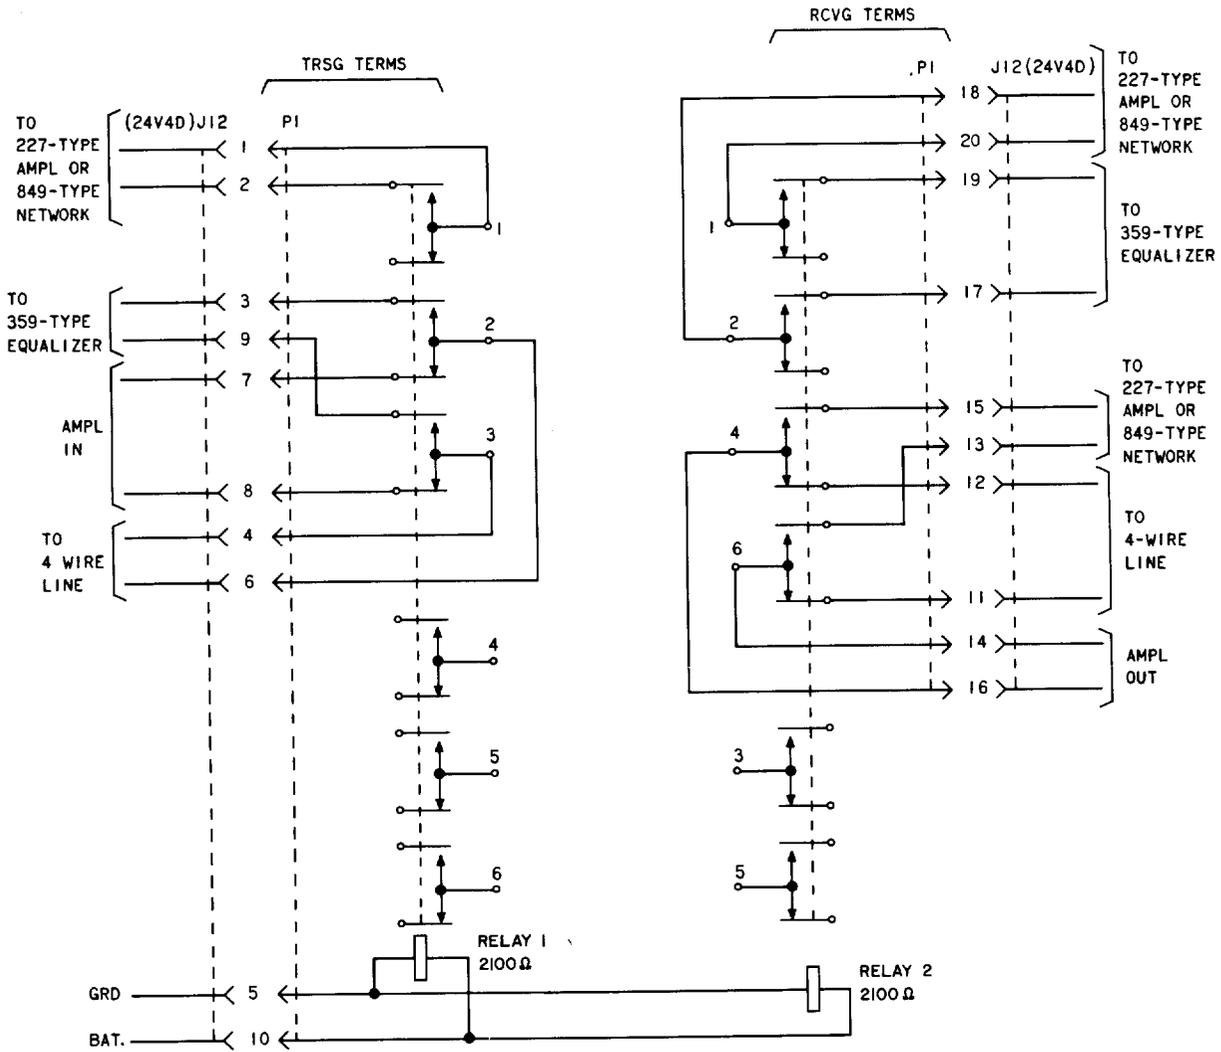
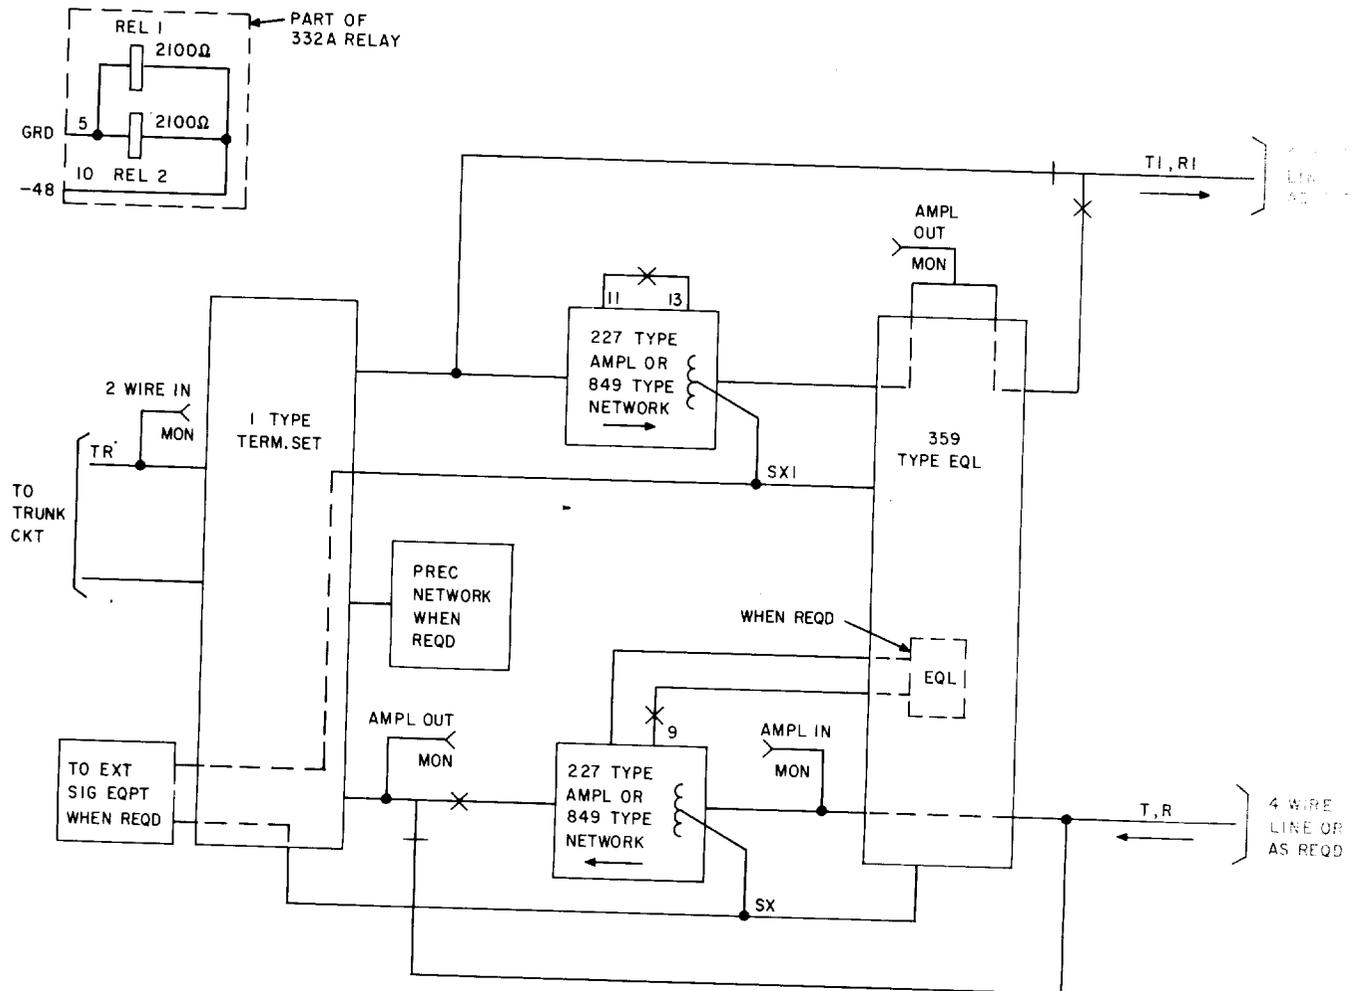

Fig. 2—332A Relay—Schematic
Fig. 3—24V4D Repeater—Power Failure Loop-Around Circuit—Block Schematic
3.01 Figure 2 is a schematic of the 332A relay illustrating typical circuit connections when the relay is used in a 24V4D repeater. Figure 3 is a block schematic of the 24V4D repeater illustrating